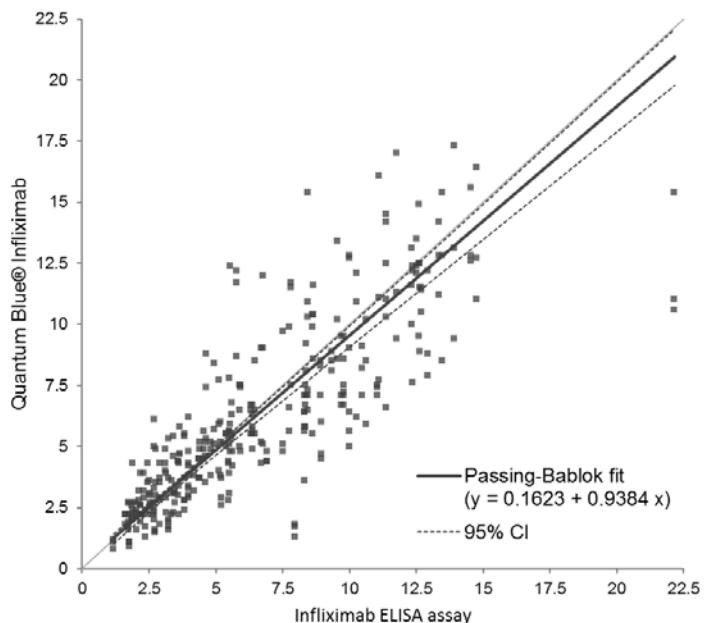

Figure 2
The method comparison study was performed according to the CLSI guideline EP09-A3. One hundred and ten (110) samples were measured in triplicate with the Quantum Blue® Infliximab test, resulting in 330 values, and with a commercially available infliximab ELISA test. Measurements were performed over three days using two Quantum Blue® Infliximab test cassette lots. The results are summarized in figure 2.